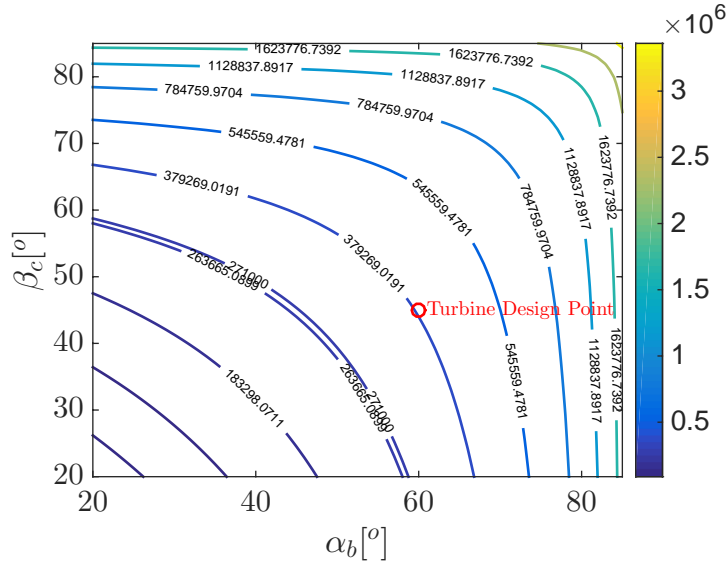

Figure 2: Specific work contour.
h)[5 pts] Desired work map is shown in Figure 2.
- j)[5 pts] The design point of $\alpha_b = 60^\circ$ and $\beta_c = 45^\circ$ is shown in Figure 2 by the red circle. The turbine work is higher than the target work from HPC (2.17×10^5 J/kg). Therefore, the angles proposed in the presented design is satisfactory.